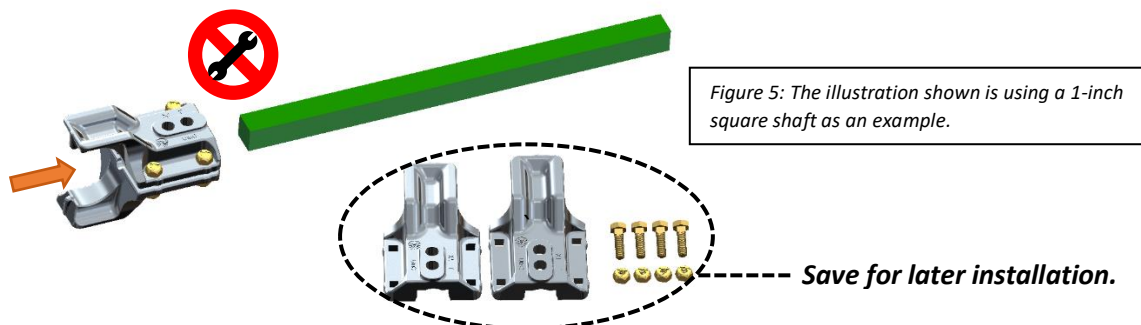

Figure 5: The illustration shown is using a 1-inch square shaft as an example.
3. Install only one set of couplers without the puck onto one end of the drive shaft. Save the remaining set for later installation. See Figure 5. **DO NOT TIGHTEN DOWN LOCK NUTS AT THIS POINT.**